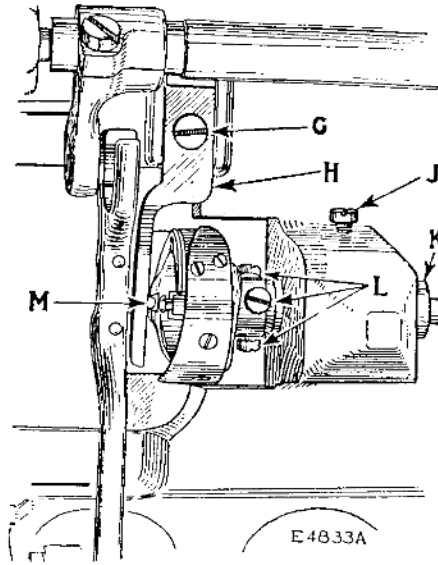
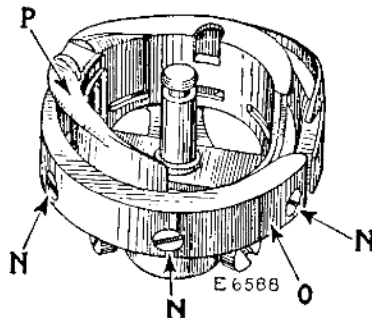
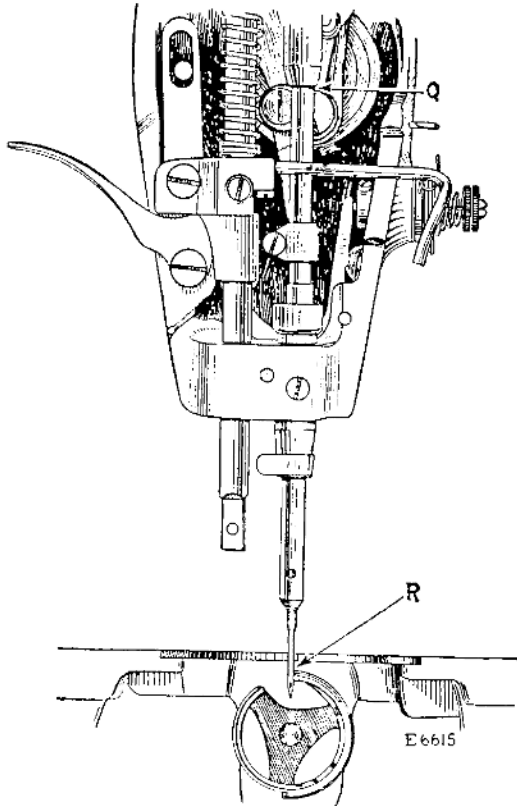
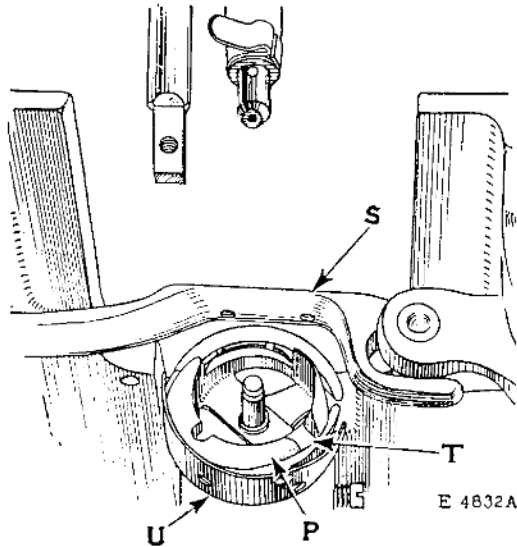

FIG. 20. VIEW OF UNDERSIDE OF MACHINE SHOWING BOBBIN CASE HOLDER POSITION BRACKET (H) AND ADJUSTMENTS ON MACHINE
FIG. 21. SEWING HOOK WITH BOBBIN CASE HOLDER
FIG. 22. NEEDLE AND SEWING HOOK CORRECTLY TIMED
FIG. 23. SHOWING CORRECT POSITION OF THREAD GUARD (U) AND BOBBIN CASE HOLDER (P) FOR REMOVAL OF SEWING HOOK
Remove the slide plate and bobbin case. Take out the screw (G, Fig. 20) and remove the bobbin case holder position bracket
(H, Fig. 20). Take out the three screws (N, Fig. 21) and remove the rotating hook section (O, Fig. 21) and bobbin case holder (P, Fig. 21). This will give a clear view of the point of the hook and the needle for the purpose of timing.
wheel over toward you until the **lower timing mark** on the needle bar is centred with the lower end of the needle bar bushing, as shown at Q, in Fig. 22, when the needle bar is on its upward stroke. When the needle bar is in this position, the point of the hook should be at the centre of the needle, as shown at R, in Fig. 22.
In case the hook is not correctly timed, loosen the three screws (L, Fig. 20) in the hub of the hook and turn the hook on the shaft until the point of the hook is at the centre of the needle, as shown at R, in Fig. 22, then tighten the three screws (L).
The hook should be set as close as possible to the needle without touching. If the hook is too close to the needle or too far away from it, loosen the three screws (L, Fig. 20) and the bushing screw (J, Fig. 20) and drive the bushing (K, Fig. 20) in or out, as may be required, until the hook just clears the needle, being very careful not to damage the bushing, then securely tighten the bushing screw (J) and the three screws (L).
Remove the needle, slide plate and bobbin case. Take out the screw (G, Fig. 20) and remove the bobbin case holder position
bracket (H, Fig. 20). Loosen the three set screws (L, Fig. 20) in the hub of the hook, then turn the balance wheel over toward you until the feed bar (S, Fig. 23) is raised to its highest point. Turn the sewing hook until the thread guard (U, Fig. 23) is at the bottom, as shown in Fig. 23, and turn the bobbin case holder (P, Fig. 23) until it is in the position shown in Fig. 23. The sewing hook can then be removed from the hook shaft.
When replacing a new sewing hook on the shaft, have the thread guard (U) of the hook at the bottom and the bobbin case holder (P) turned to the position shown in Fig. 23, so that the hook will clear the feed bar (S).
When the hook is in position on the shaft, turn the bobbin case holder (P, Fig. 23) until the notch (T, Fig. 23) is at the top, then replace the bobbin case holder position bracket (H, Fig. 20), being careful to see that the position stud (M, Fig. 20) enters the notch at the top of the bobbin case holder, as shown in Fig. 20,
then securely fasten the position bracket by means of the screw (G, Fig. 20). Replace the needle and time the sewing hook as instructed on pages 17 and 18. When tightening the three screws (L, Fig. 20) in the hub of the hook, draw the hook shaft toward the needle bar end of the machine and press the hook toward the balance wheel so as to take up the end play in the shaft. Then replace the bobbin case and slide plate.